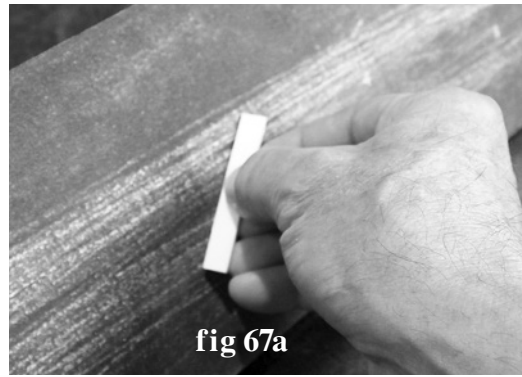
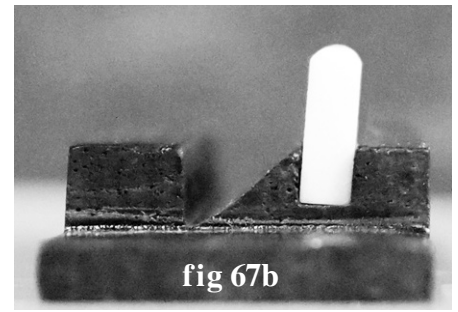

fig 67a
fig 67b
**67.** The white saddle for your bridge has sharp corners that might cause frequent string breakage if you don't round them over. Use coarse sandpaper (80-100 grit) to shape the top edges, as shown (fig 67a). Just a gentle rounding is all that is needed along the top of the saddle (fig 67b). Follow up with fine sandpaper to make the rounded edge smooth.